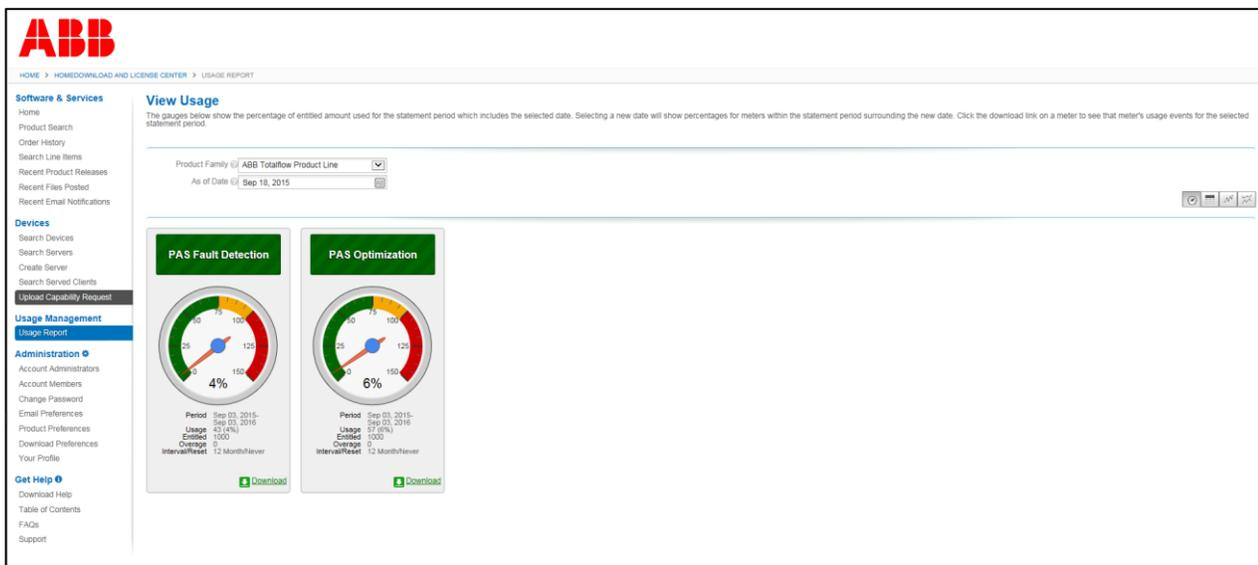

Figure 59: Usage Report screen
- 5) View the usage on the default screen (Figure 59) or click on the graphical view buttons on the right side for additional usage views.